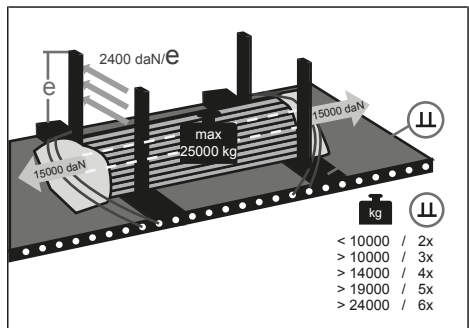

Fig. 8-21: Multi Fix system
- ▶ Position the steel pipes on the footing beam between the vertical support beams (see "Fig. 8-21: Multi Fix system", pg. 144).
- ▶ Install the safety net at the ends of the steel pipe (see "Fig. 8-21: Multi Fix system", pg. 144).